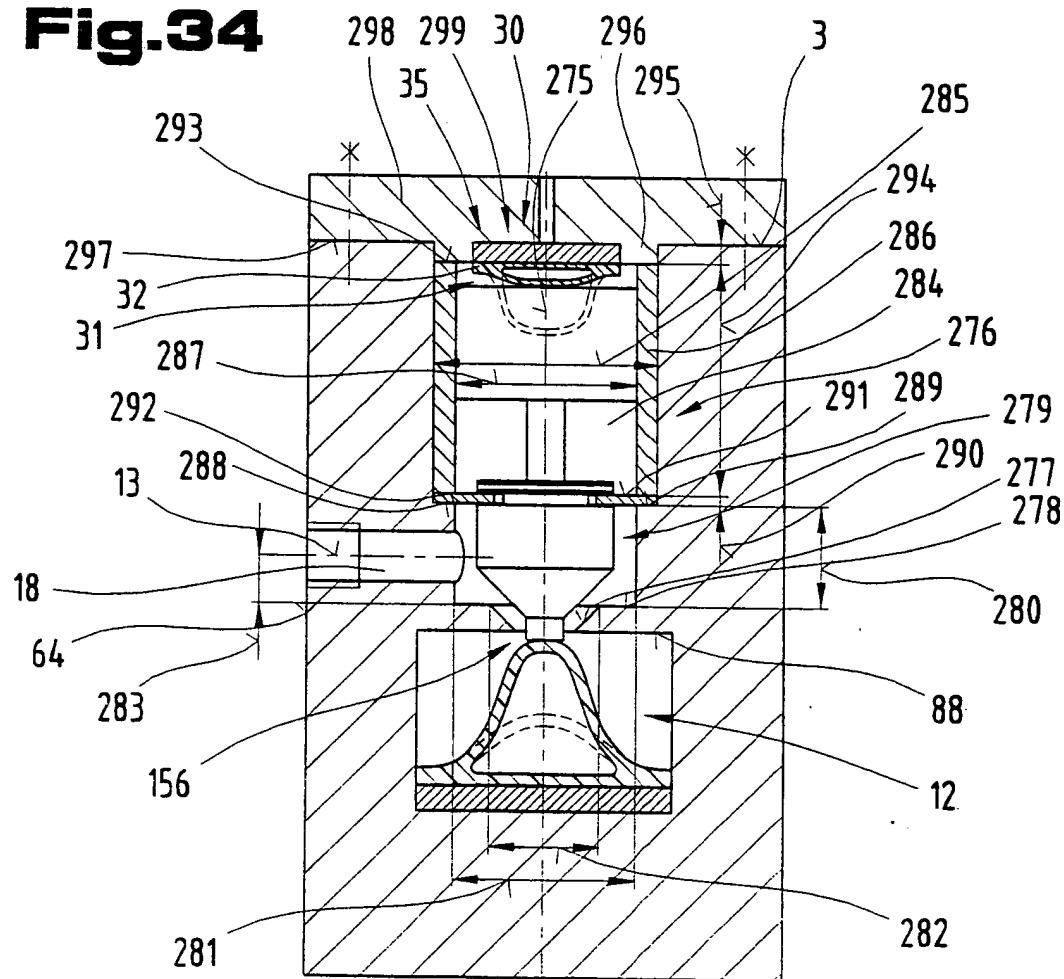

Fig.35
Fig.35 is a detailed cross-sectional view of a multi-layered mechanical assembly. The assembly consists of several stacked layers, each with different hatching patterns. Key components include a central vertical shaft (1) passing through the center, and various internal features like grooves, steps, and seals. Numerous reference numerals (e.g., 1, 8, 11, 13, 14, 22, 24/28, 31, 32, 33, 34, 35, 36, 37, 38, 39, 40, 41, 42, 43, 44, 45, 46, 47, 48, 49, 50) are used to identify specific parts. Section lines XXXVI and XXXVII are indicated with arrows pointing to specific cross-sections. The assembly is shown in a perspective view, with some parts being cut away to reveal internal structures.